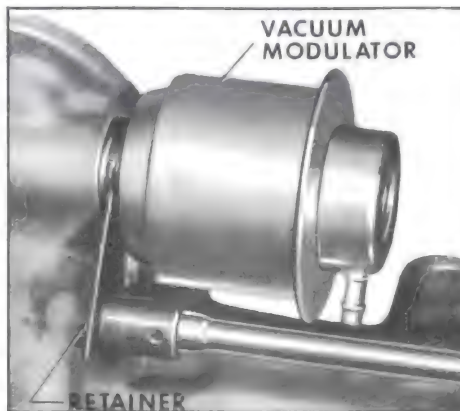

Figure 5-143
1. Remove vacuum modulator retainer bolt and retainer using a 1/2" socket. Remove vacuum modulator and valve assembly. See Figure 5-143.